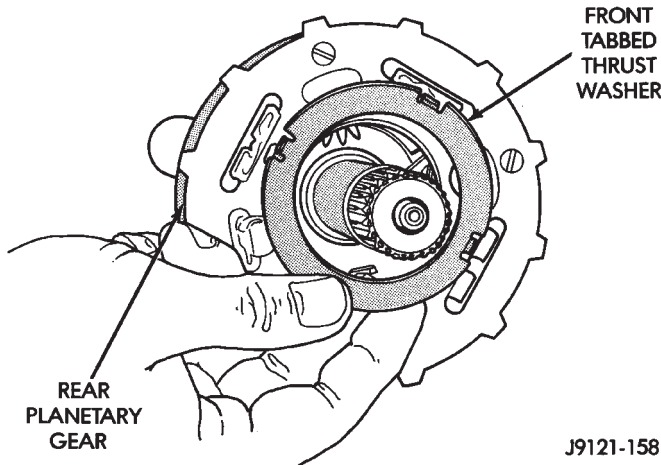

Fig. 154 Installing Rear Planetary Front Thrust Washer
(6) Install front thrust washer on rear planetary gear (Fig. 154). Use enough petroleum jelly to hold washer on gear. Be sure all four washer tabs are seated in slots.